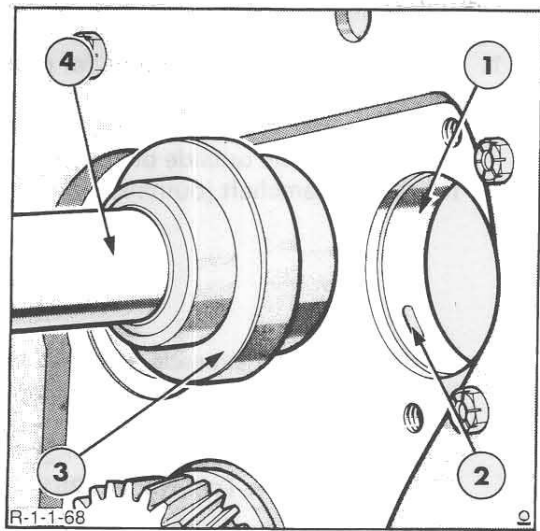

Figure 69
- Position Tool No. FT 6203 or 1255 against the camshaft bearing to be removed and attach Tool No. N 6261-A or 1443, Figure 69.